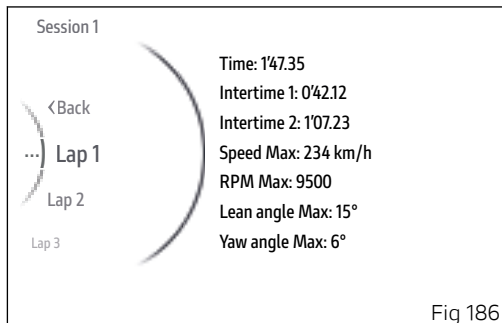

Fig 186
To view the LAPs memorised in one session, select the desired session and press the ENTER button (3). The display will show all the laps recorded in the selected session (Fig 186).